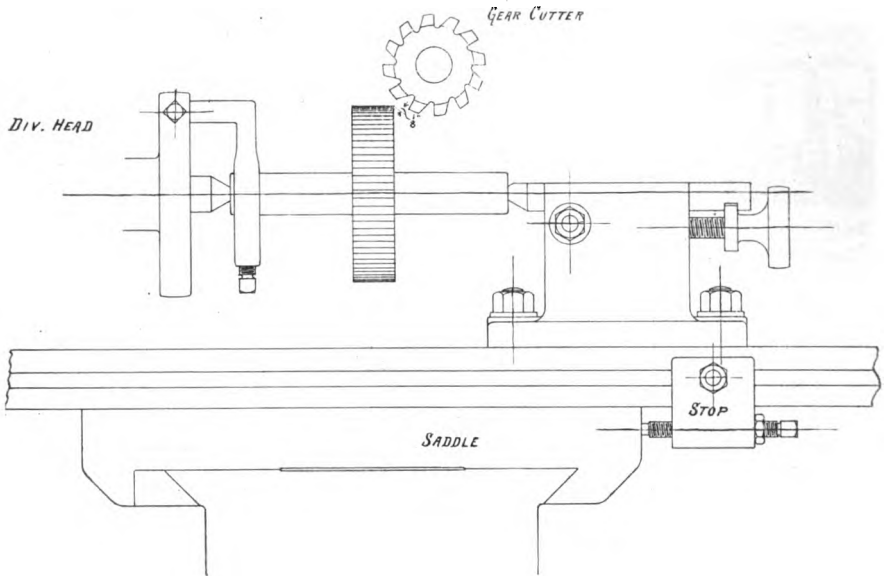

FIG. 3
3. It is usually the case that with each Horizontal Milling Machine a stop is furnished which is a very handy article if made use of, which is, as a general rule, quite rare. But if those who have gears to cut place this stop on the end of the table where cutter starts, and set it so that when the table comes to a halt the cutter will just clear the blank being cut by about $\frac{1}{8}$ inch they will not have to take a peek each time so as to be sure their cutter isn't going to do a little unnecessary trimming. Fig. 3 tells the story.